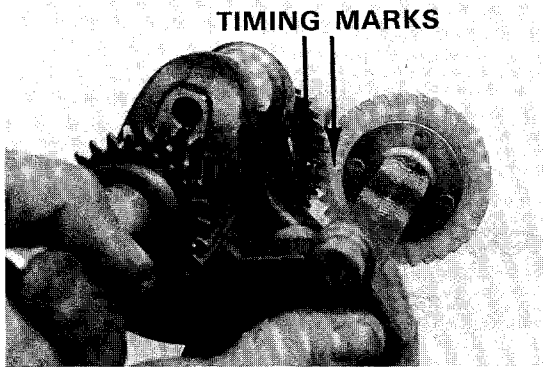

Figure 6-42
14. Align the timing mark on balance shaft gear with timing mark on crankshaft gear (Figure 6-42).